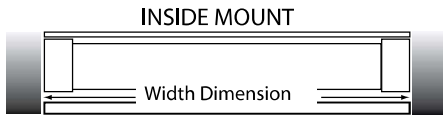

FIG. 1
### Inside Mount (IB) (Fig. 1)